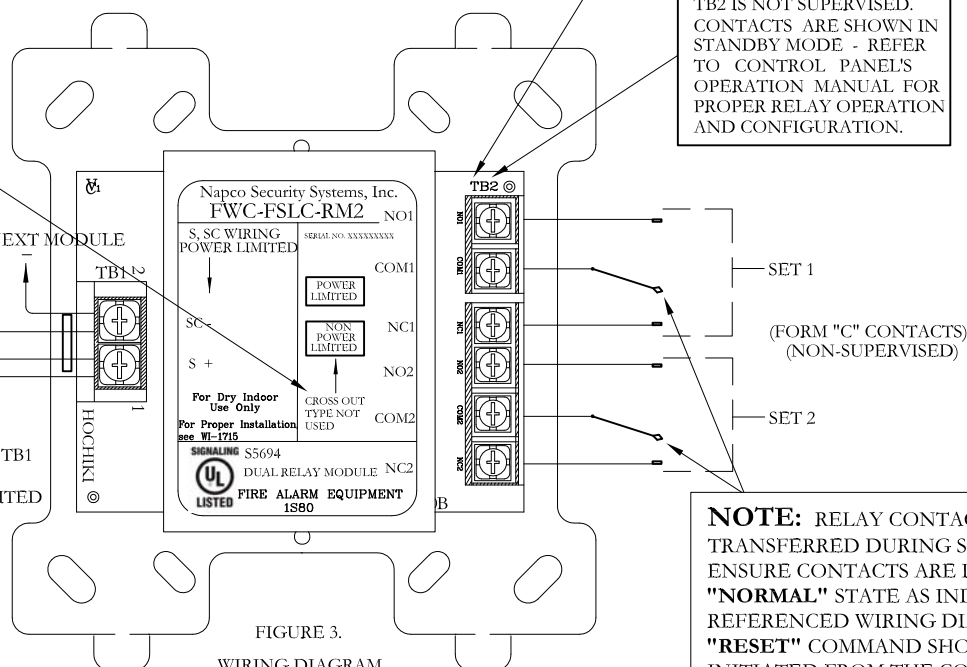

FIGURE 3.
- 1) Install module wiring in accordance with the job drawings and appropriate wiring diagram (see Fig.3).